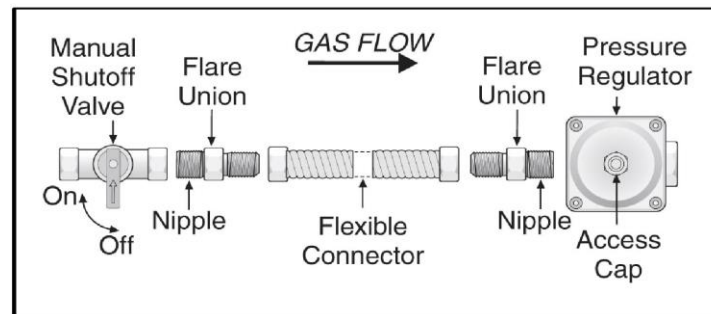

Figure 14
- 4) The gas intake connection of the appliance has a “male thread.” When making the connection, take care not to apply stresses of any kind to the appliance. Over-tightening may crack the regulator resulting in a gas leak and possible fire or explosion (see Figure 14).
- Screw the regulator cap back into the regulator and re-attach the regulator to the nipple and flare union (see Figures 14 and 23).